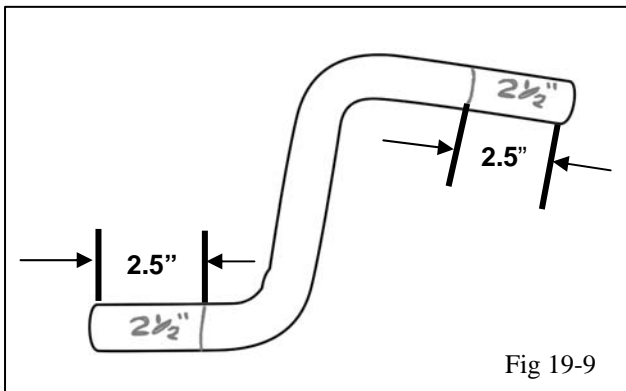

Fig 19-9
- (l) Take the molded hose (A11) and mark and cut it as shown (Fig 19-9). When you cut and remove 2.5" from each leg, you should end up with 1" on the short leg.